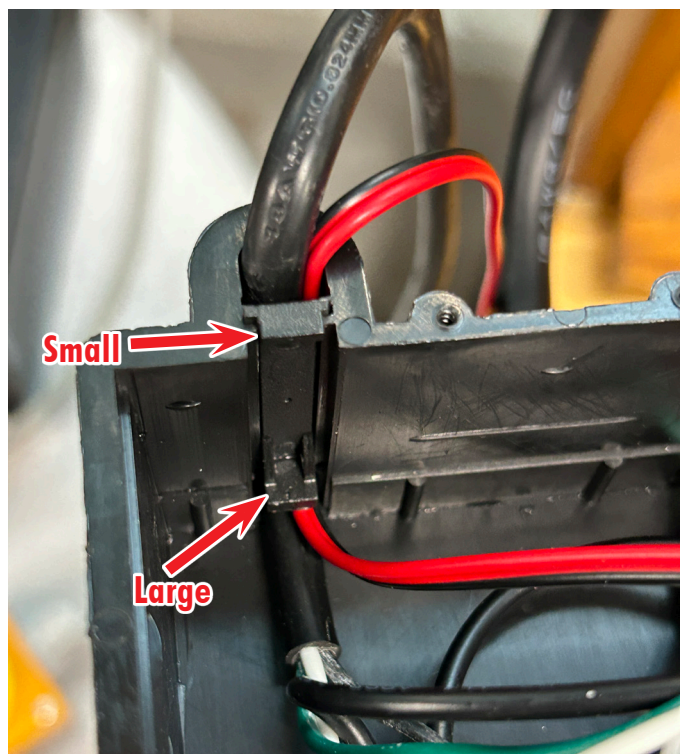

FIGURE 11
I. Reinstall the cord keeper with the large end inserted first and the small end flush with the bottom of the control housing (see Figure 11).